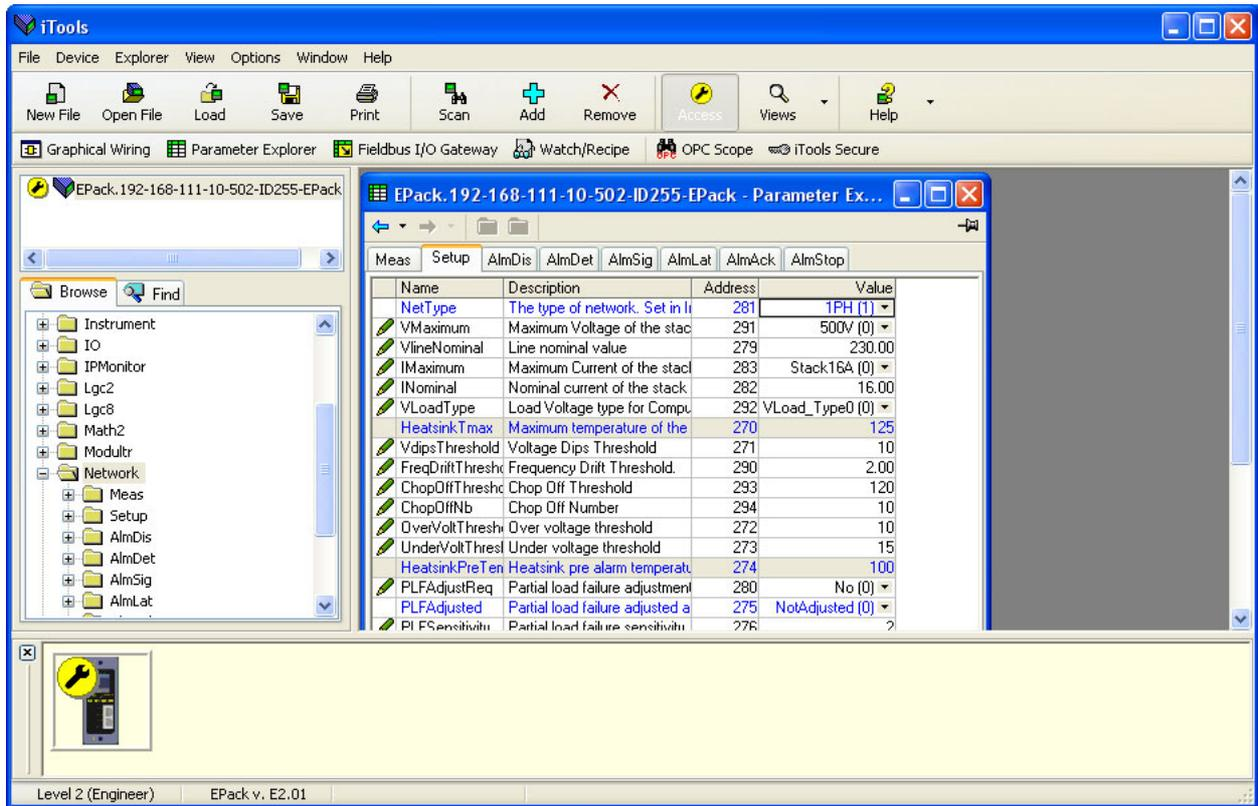

Figure 138 Parameter table example
In each case the function block parameters appear in the iTools window in tabular form, such as the example in Figure 138.
- Parameters in blue are non-editable (Read only). In the example above all the parameters are read only. Read/write parameters are in black and have a 'pencil' symbol in the 'read/Write access column at the left edge of the table. A number of such items are shown in Figure 138, above.
- Columns. The default explorer window (Figure 138) contains the columns 'Name', 'Description', 'Address' and 'Value'. As can be seen from Figure 141, above, the columns to be displayed can be selected, to a certain extent, using either the 'Explorer' menu or the context menu. 'Limits' have been enabled for the example above.